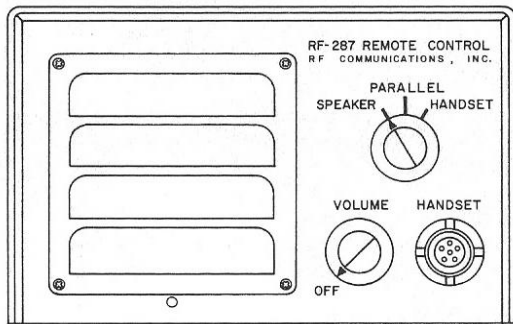

Figure 1. RF-287 Audio Remote Control Front Panel.
C. ON RF-287 REMOTE CONTROL (Figure 1)